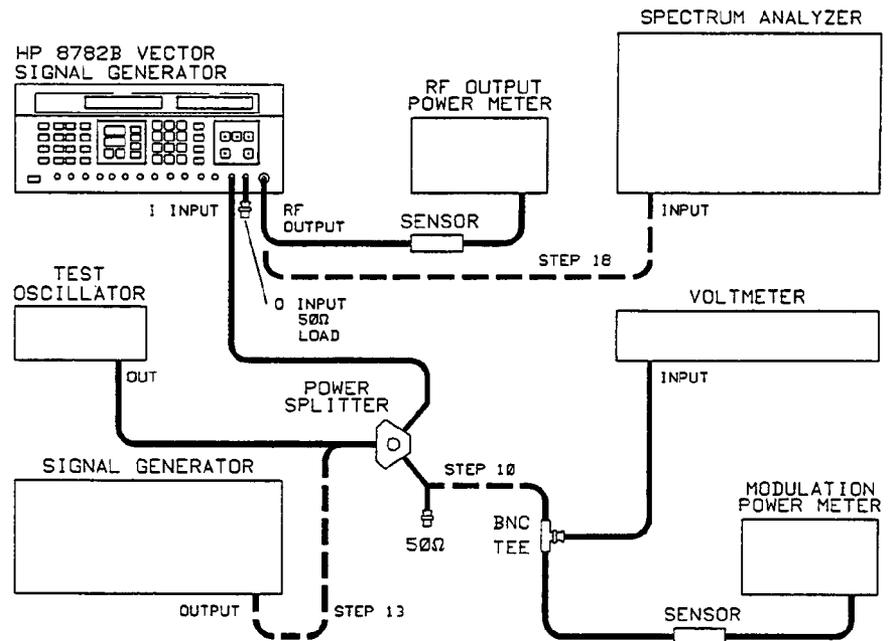

Figure 5-34. Vector Frequency Response Test Setup
1. Connect the equipment as shown in figure 5-34.